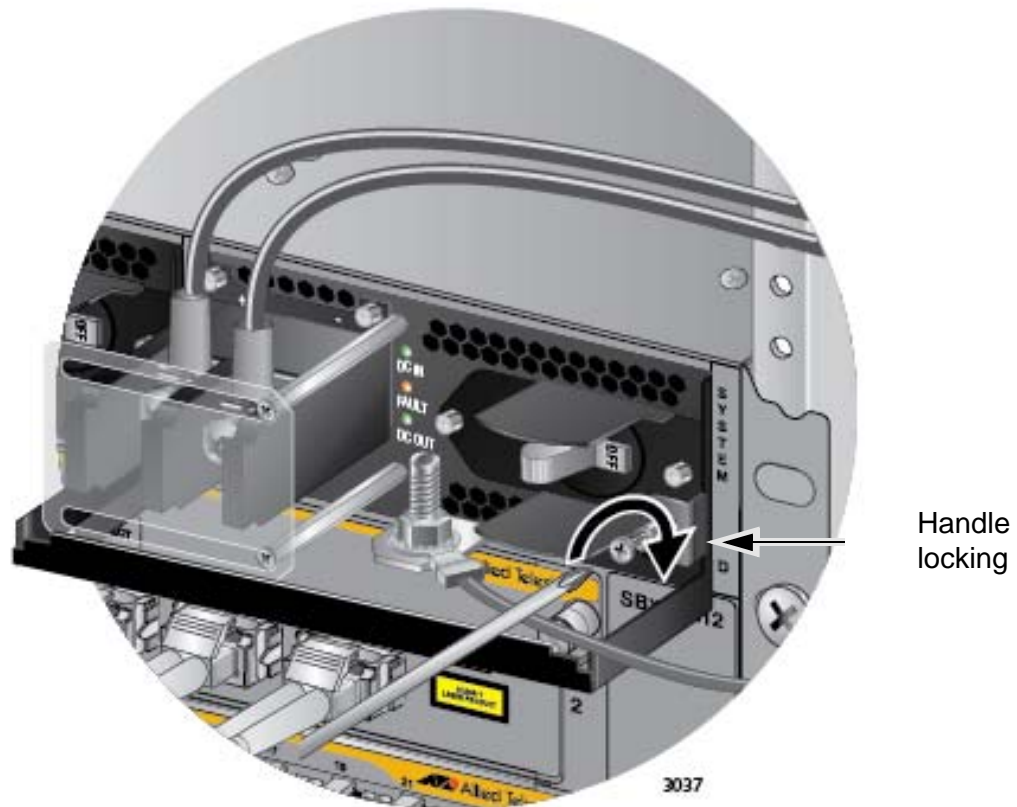

Figure 146. Tightening the Handle Locking Screw
9. With a #2 Phillips-head screwdriver, tighten the handle locking screw to secure the power supply to the chassis. See Figure 146 on page 225.
7. With a #2 Phillips-head screwdriver, tighten the handle locking screw to secure the power supply to the chassis. See Figure 146 on page 225.